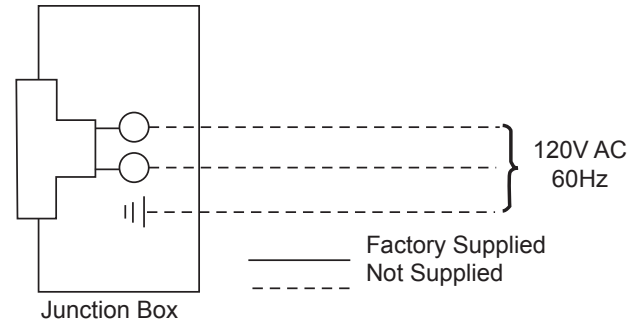

**Figure 48 -
3. The junction box cover has a factory installed "romex" style strain relief connector. After connecting the wires, route the wire leads through this connector. Refer to the wiring diagram in *Figure 48*.